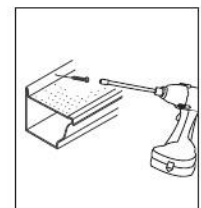

Fig. 8
8. Screw the back of the Gutter Warrior™ LT and the gutter into the fascia board every 24" using the self-sealing screws. (Fig. 8)